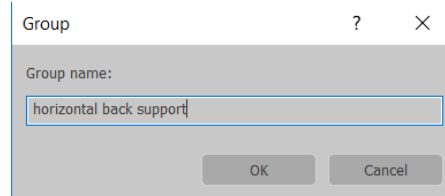

Figure 2-73 The **Group** dialog box
3. In the **Group name** text box, enter **horizontal back support**, as shown in Figure 2-73 and then choose the **OK** button; all the horizontal back supports are grouped together.